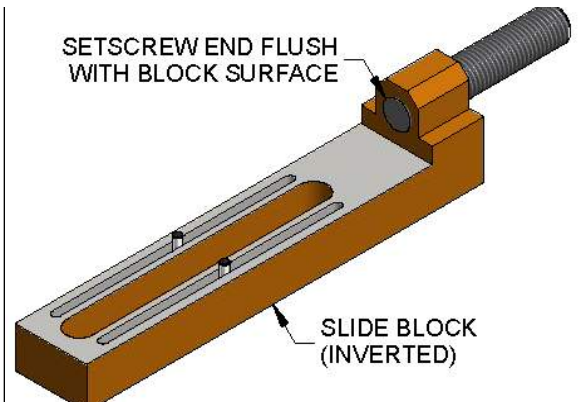

Figure 14. Slide block assembly
- On the ram tether kit slide block, turn the setscrew until it is flush with the block inside surface (see Figure 14).
1. Move the ram to one end of the bed, and mount a dial indicator between the ram and the gantry rail as shown in Figure 14.